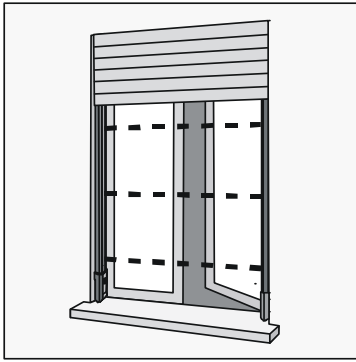

fig. 1
- One in front of the other (fig. 1)